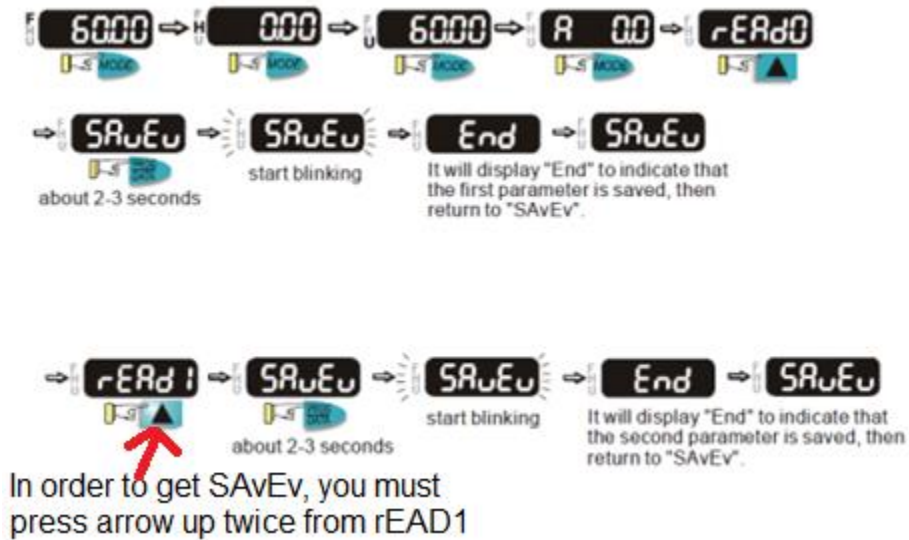

Figure 5.6.2A
- a. To download the parameters from the Operator to the AC Drive follow the sequence in figure 5.6.2A below.